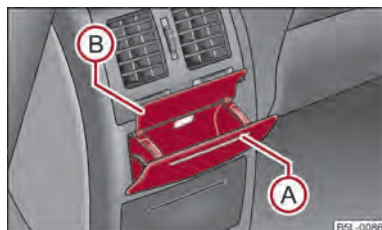

Fig. 73 High centre console: Rear ashtray
- Press on the top part of the cover of the ashtray in area (A) ⇒ fig. 73.